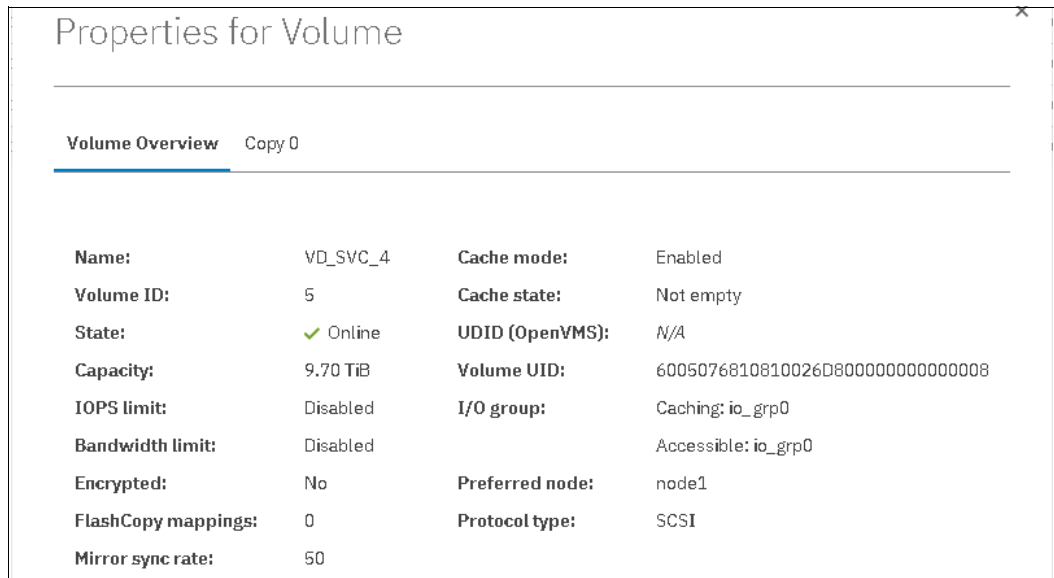

Figure 4-13 FlashSystem volume details
- b. Check the last three bits from the IBM FlashSystem ctrl_LUN_#.In this example, the number is 0000000000000002, as shown in Figure 4-13 on page 145.
1. From the back-end IBM FlashSystem side, check the Volume UID field for the volume that was presented to the virtualizer, as shown in Figure 4-13 on page 145.